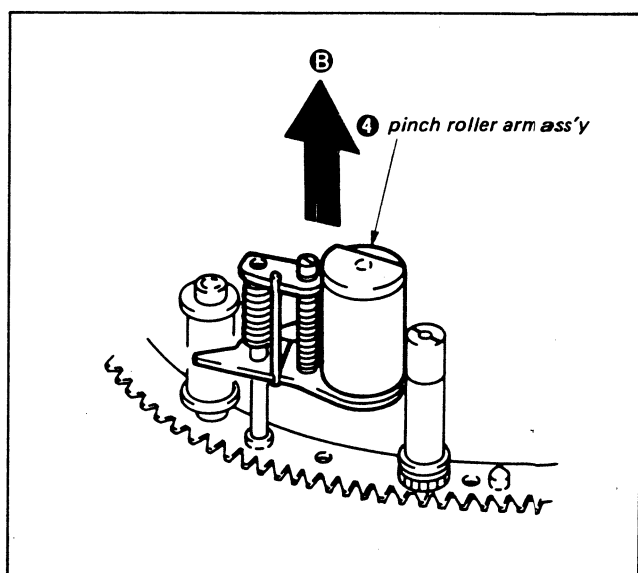

Fig. 3-13.
- 5) Remove pinch roller arm assembly ④ in the direction of arrow B. (See Fig. 3-13)